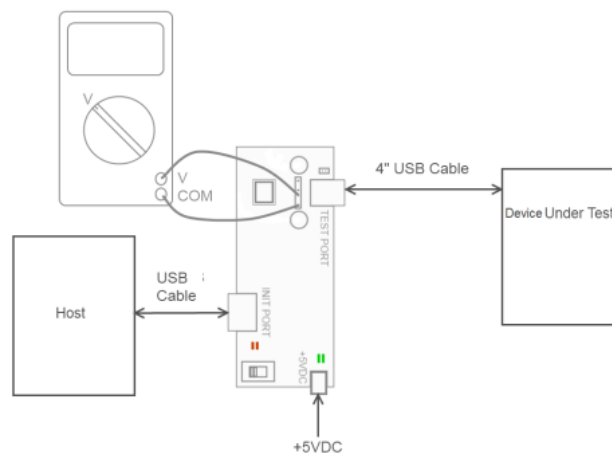

Figure 29. Device Test J/K, SE0_NAK test connection
- As shown in Figure 29, connect the test equipment and place the switch in the test switch to **OFF** position. Verify that the green power LED is lit and the yellow test LED is OFF.